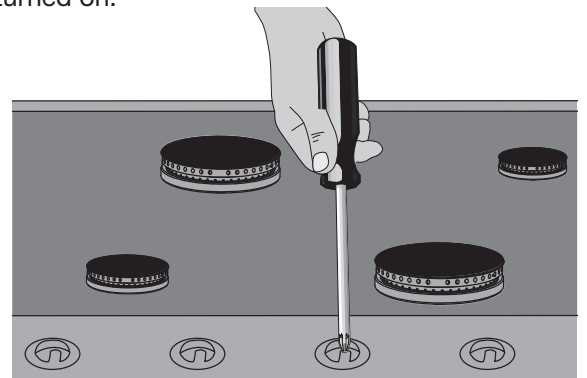

Figure 22
- To adjust the flame, remove the knobs, insert a screwdriver through the access hole in valve shaft as shown (see Figure 22). Make the adjustment by slowly turning the screw until flame appearance is correct.